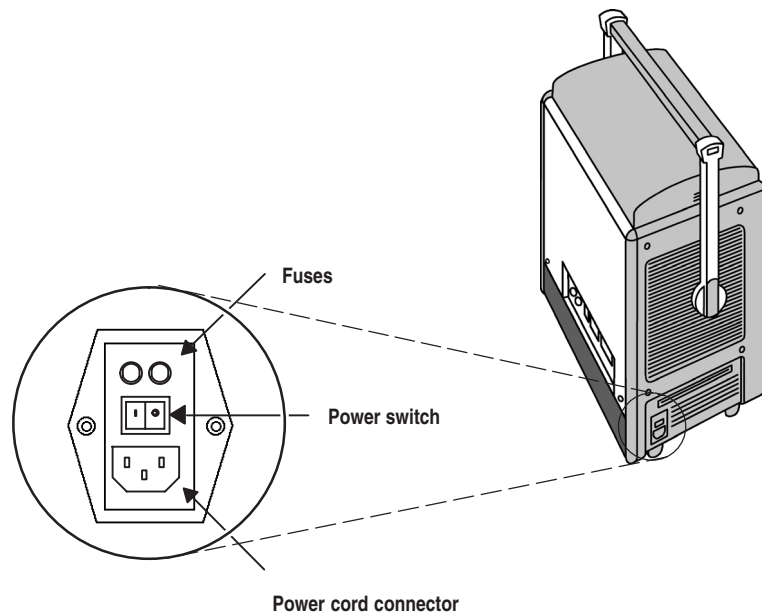

Figure 1–5: Power Switch, Line Fuse, and Power Cord Connector
1. Connect the proper power cord. See Figure 1–5. The power cord connector and the power switch are both located on the left side of the device.
2. Press the power switch to turn on the device (see Figure 1–5 for the switch location). The LED on the front panel of the power supply indicates that the portable is powered up.
Before you switch off the device, shut down the operating system, and then switch off the device using the power switch (see figure 1–5).
Device does not turn on	<p>Verify that the power cord is connected to the device and to the power source.</p> <p>Press the Power switch and verify that the instrument receives power by listening for the fans to start and checking that some front-panel indicators light up.</p> <p>Check that power is available at the power source.</p> <p>Check for incorrect or failed fuse. The fuse is located beside the power switch on the rear of the device (see figure 1–4). If needed change the fuse as follows:</p> <ol style="list-style-type: none"> 1. Remove the fuse holder at the rear of the device with a flat-head screw driver. 2. Remove the fuse. 3. Install the clip on the other side of the fuse holder. 4. Rotate the fuse holder 180 degrees. 5. Install the new fuse. <p>Software failure: contact your Tektronix Service Center.</p>